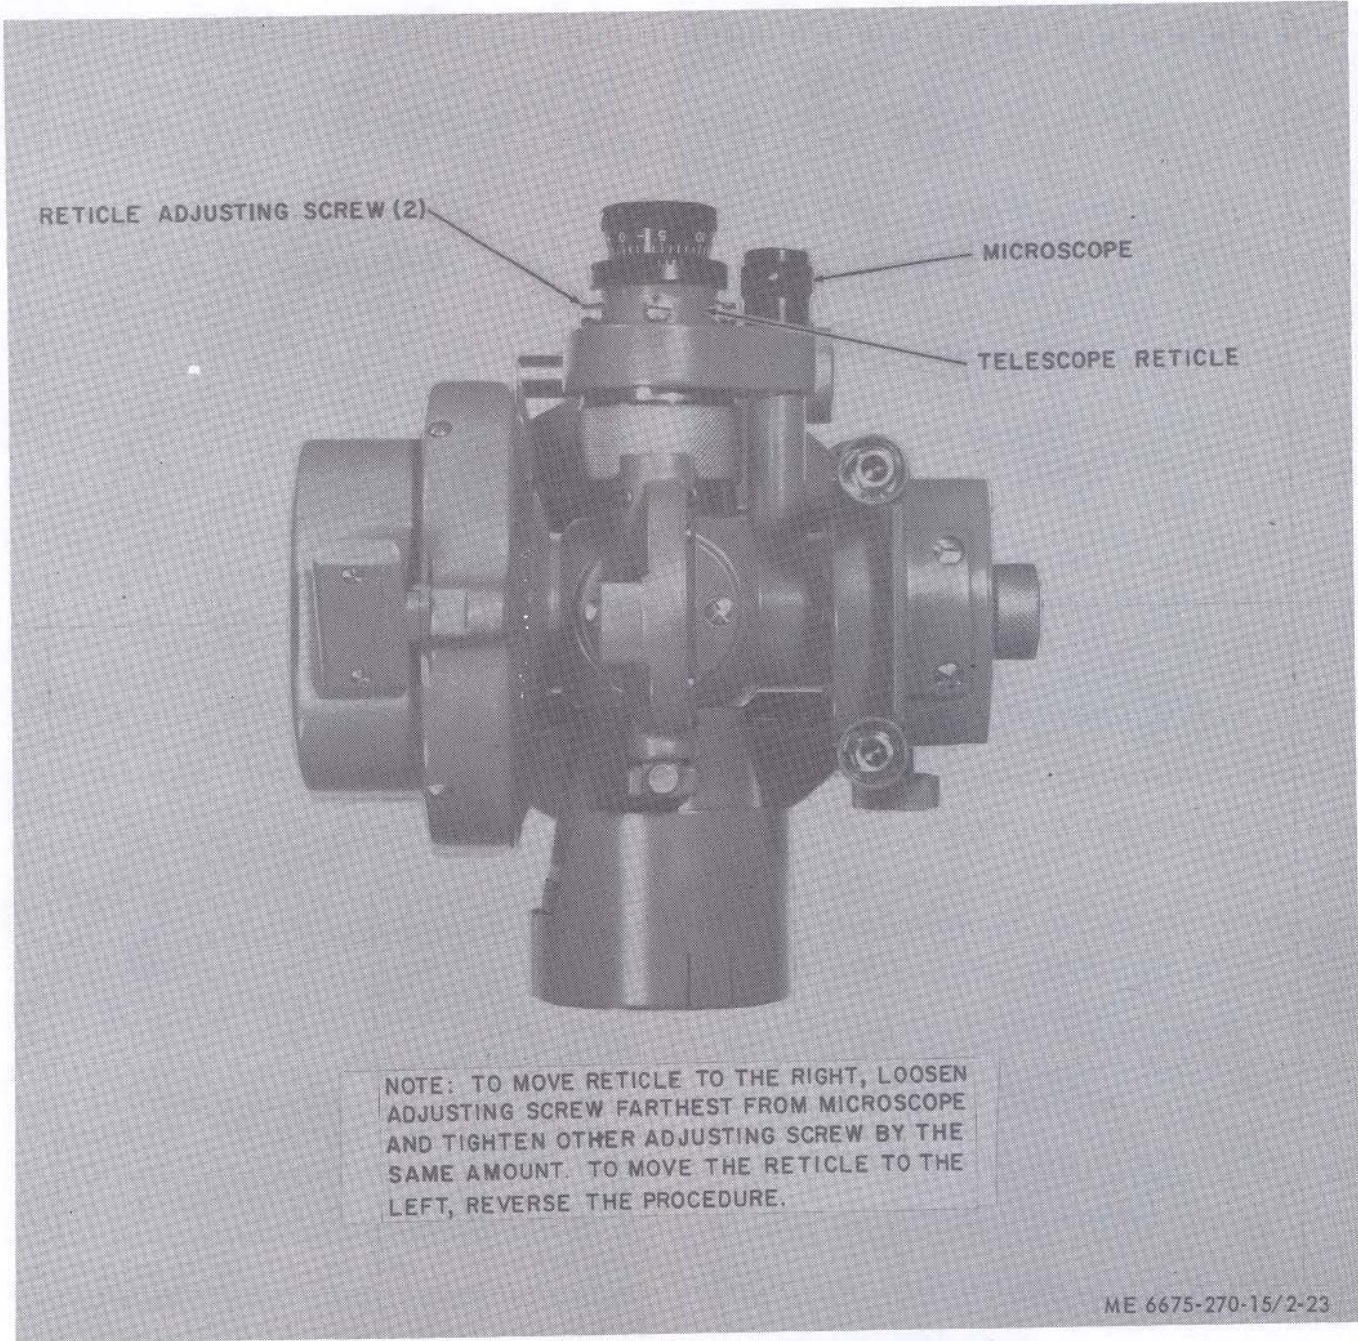

Figure 2-23. Horizontal collimation error correction.
(5) Add the two readings, subtract 180 degrees or 3200 mils as applicable and divide by two. The difference between the quotient and the lesser of the two readings is the collimation error.
(6) Using the horizontal slow-motion screw, set the mean value of the collimation error on the horizontal circle scale.
(7) Refer to figure 2-23 and correct the horizontal collimation.